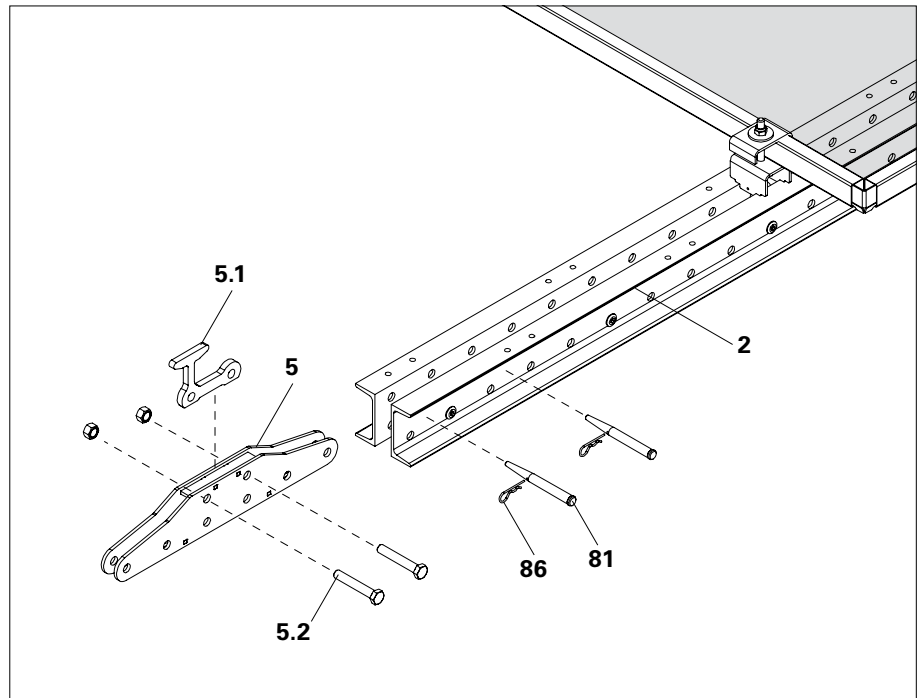

Fig. C1.09
1. Mount Screen Support LPS M20 (5.1) to Rail Connector LPS (5) using the attached Bolts M20x120 (5.2) and Nuts M20.
2. Insert Rail Connector LPS (5) into the Climbing Rail LPS (1) and secure by inserting 3x Fitting Pins  $\varnothing$  21 (81) and Cotter Pins 4/1 (86) through holes  $\varnothing$  21.
3. Mount Screen Element (21). There is no top Screen Adapter Single LPS 60. Instead, insert the Screen Element into the Screen Support.
4. Position climbing enclosure on the building. (Fig. C1.09 + C1.10)